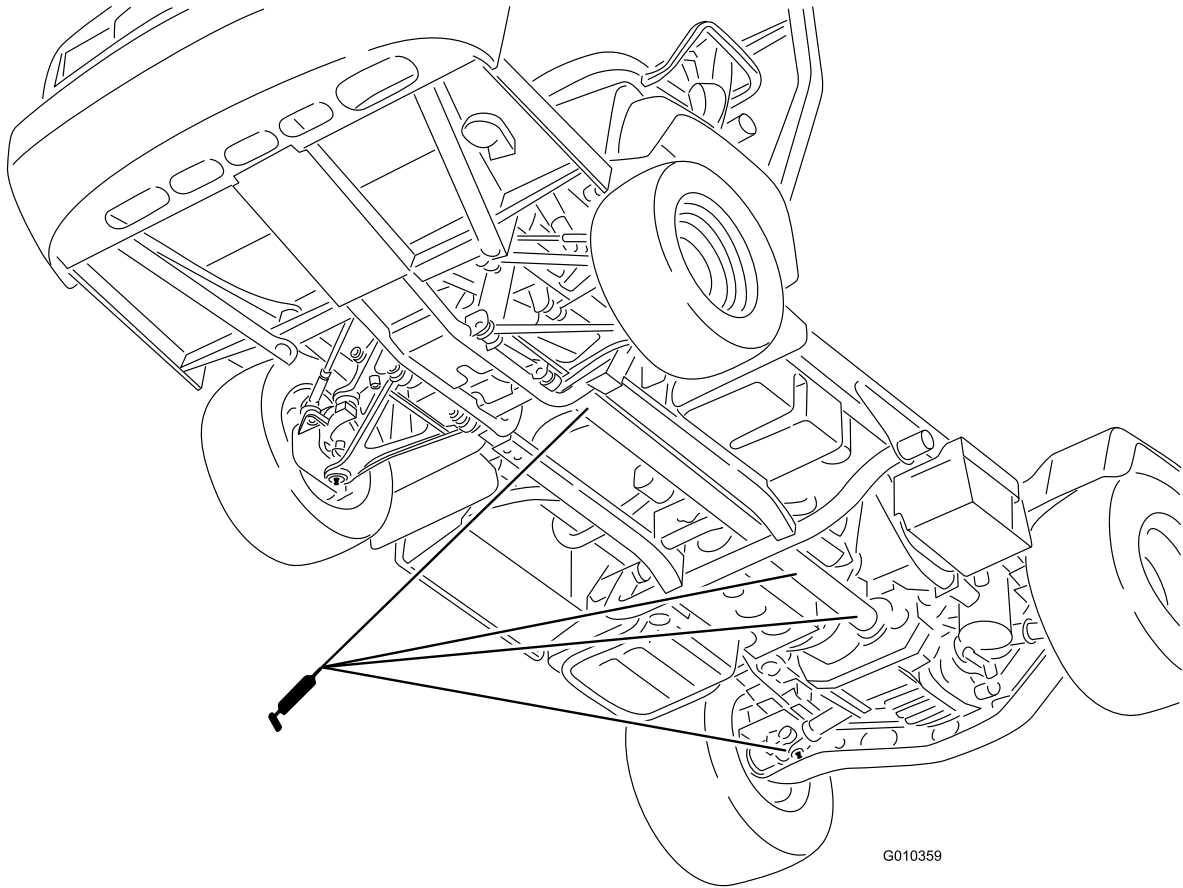

Figure 32
- **U-joint (18);** refer to Figure 32
- **4-wheel drive shaft (3);** refer to Figure 32